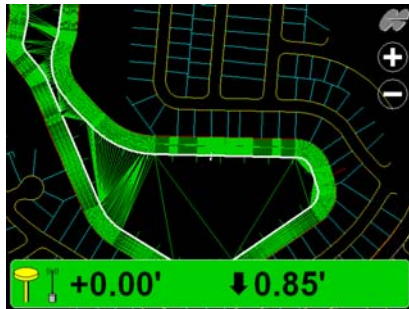

Figure 5-25. Linework Display – Main Screen
2. Press **Ok** to return to the Main Screen (Figure 5-25).